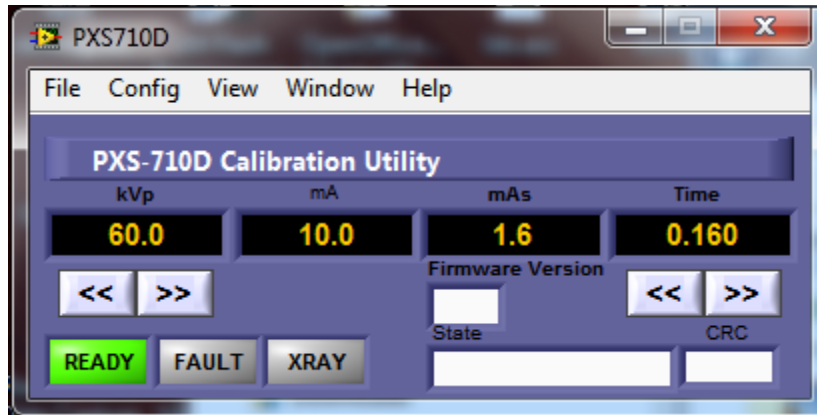

Figure 2.11
- c. Calibration Mode adds additional diagnostic information to the application window. Ref fig. 2.11. This information is shown once the **PREP** switch on the Exposure switch is depressed.